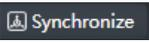

Figure 5.63 Simulate the actions of ink dipping
4. Move the forearm to the inkstone positions shown in Figure 5.63, and record these points on the “Trigger Trajectory” page.